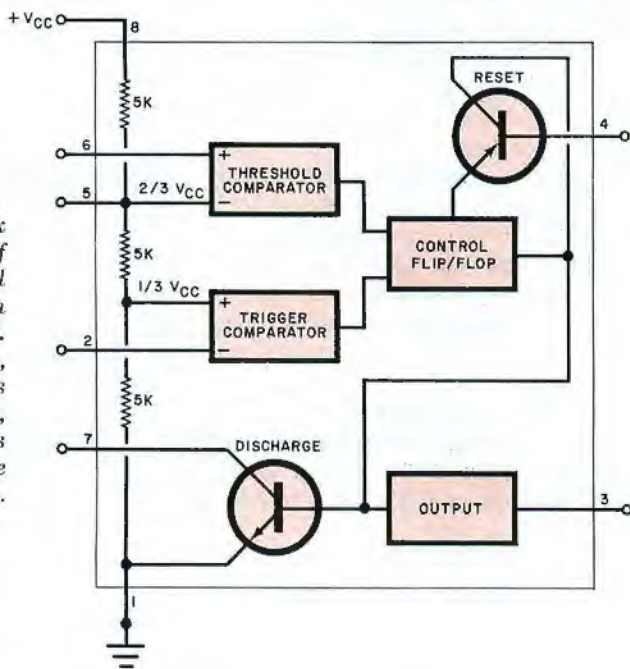

Fig. 2. Block diagram of principal circuits in the 555 IC. In this case, one 555 is used as timer, and two as astable multivibrators.
**About the Circuit.** As shown in Fig. 1, when light strikes its photosensitive surface, *Q1* triggers into conduction and causes *Q2* to saturate. This places pin 1 of *IC1* close to ground potential and allows the timer to start operating (Fig. 2). Since the voltage across *C1* is initially zero, *IC1* is triggered into immediate operation. Timing is controlled by *R8*, *R1*, and *C1*.